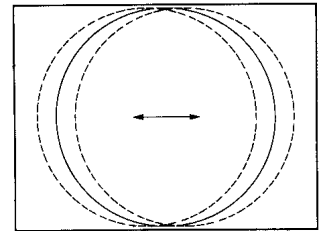

fig. 2
- Adjust the horizontal location to obtain picture centering (Fig. 2).